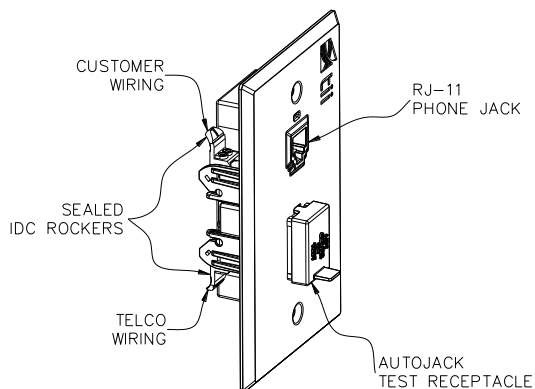

Figure 1
3. Pull both rockers to the full up position. DO NOT strip wires. Hold the wire pair to be terminated between thumb and index finger. Insert wires into wire guides simultaneously until they bottom-out. While holding wires in position, terminate rocker by lowering to the full DOWN position. Figure 1.